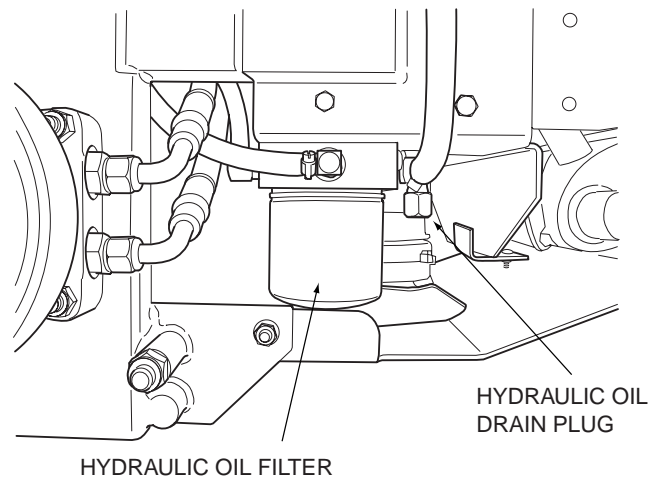

Figure 7-3 Hydraulic Oil Filter and Drain Plug
2. Place a suitable container under the hydraulic oil filter. Tilt the seat forward. Remove the fill cap from the reservoir and the drain plug from the bottom of the drain tee fitting on the front side of the filter base. (See Figure 7-3). Allow the fluid to drain into the container and properly discard it.
1. Remove the oil filter element (Figure 7-3, Page 31) and properly discard it. Fill the new filter with clean SAE 20W50 engine oil and install the filter. Hand tighten only.